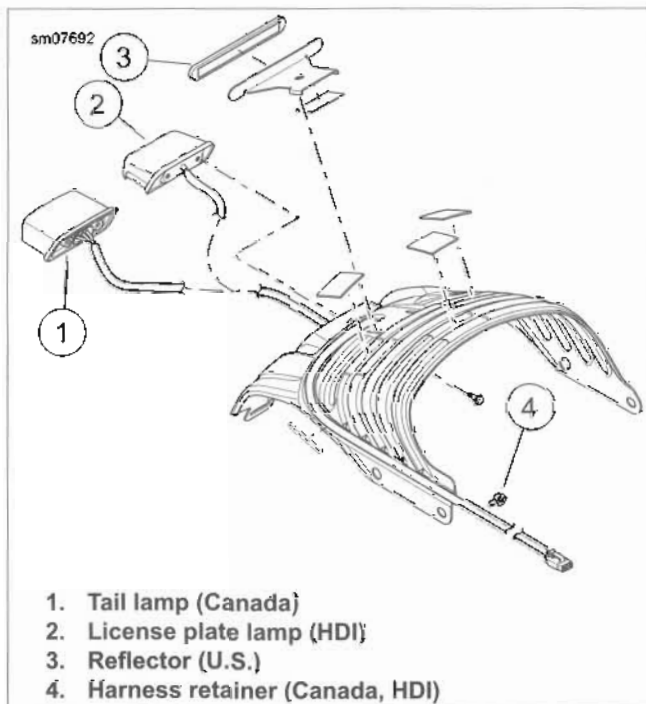

Figure 7-61. Rear Lighting
6. **Canada and HDI models:** See Figure 7-61. If needed, remove harness retainer (4) and tail lamp (1) or license plate lamp (2).
7. **Canada and HDI models:** If installing tail lamp (1) or license plate lamp (2), secure harness with a **new** harness retainer (4).